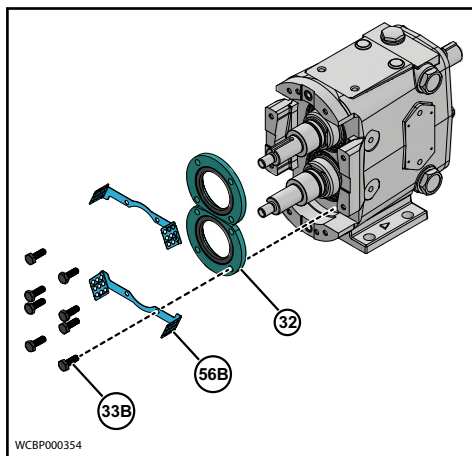

Figure 45 - Remove Seal Guard and Bearing Retainers
NOTE: The Figure 45 is shown for reference only.
- Remove the front bearing retainer screws (33B) and pull off the Seal Guard-Horizontal (56B) and bearing retainers (32) (Figure 45). If a retainer is stuck, leave it in place; it will press out when the shaft is removed.